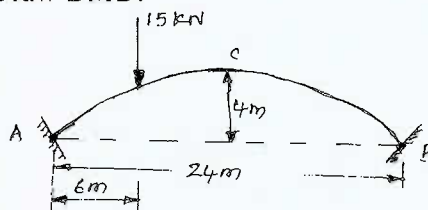

Fig.Q8
- 8 Find the horizontal thrust for the two hinged arch as shown in Fig.Q8. The moment of inertia at any section is $I_c \sec \theta$ where θ is the slope at section and I_c is MI at the crown. Neglect the effect of rib shortening. Draw BMD. (20 Marks)